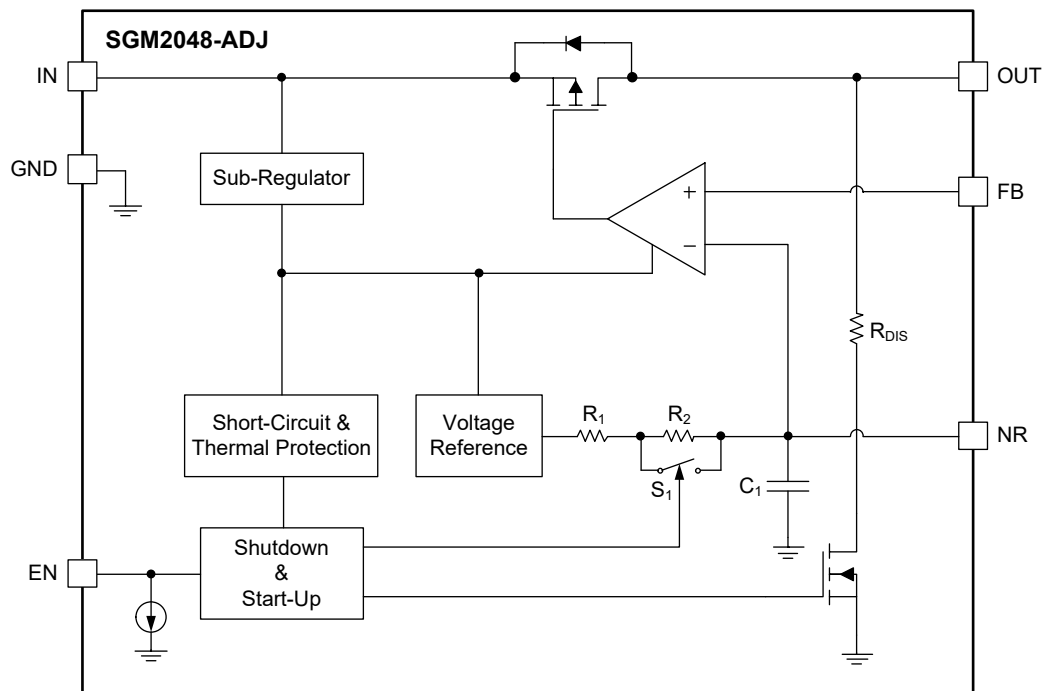
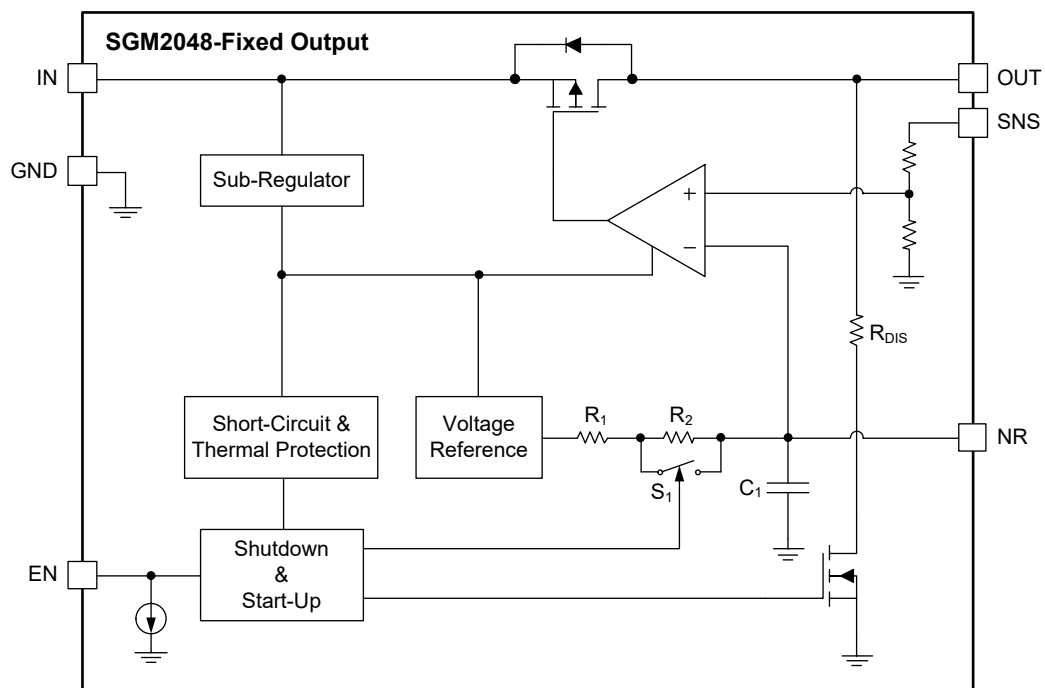

Figure 2. Adjustable Output Voltage Internal Block Diagram
Figure 3. Fixed Output Voltage Internal Block Diagram
In Figure 2 and Figure 3, a low-pass (RC) filter is used to reduce the noise of bandgap voltage reference, the external C_{NR} and the resistance controlled by the quick-start circuit consists of this filter. The switch for quick-start is closed at start-up, C_{NR} will be charged by V_{REF} circuit and there is only 33k Ω resistance between bandgap circuit output and the NR pin. It's about 2ms after the device is enabled that the switch for quick-start will be turned off, the resistance between the NR pin and bandgap circuit output will be changed to about 265k Ω . This low-pass filter helps LDO achieve very good noise-reduction after start-up due to resistance is changed from 33k Ω to 265k Ω . Generally, low leakage ceramic capacitor is used and the value of C_{NR} is larger than 10nF. Larger C_{NR} is better to reduce the noise of LDO, but it prolongs the start-up time of LDO, the value of C_{NR} must be the trade-off between noise and start-up time.